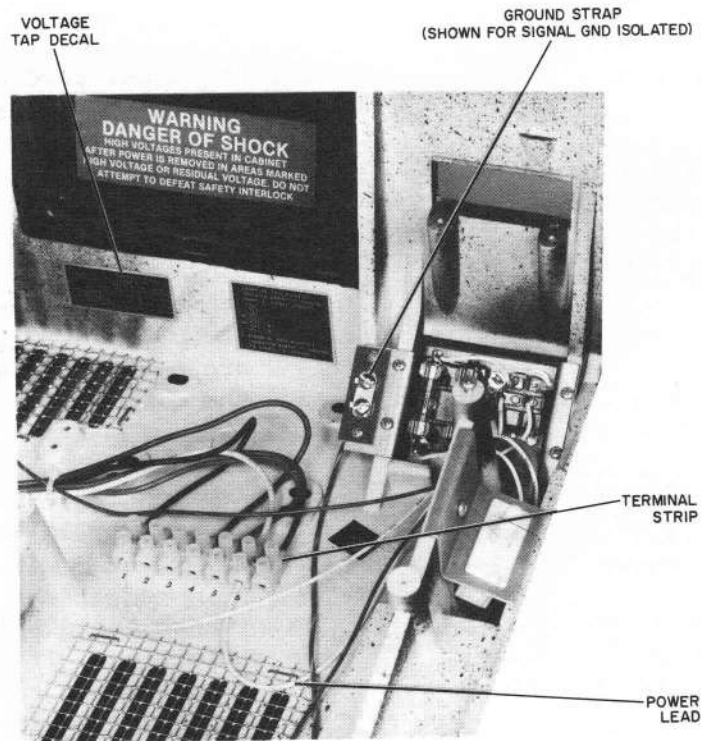

Figure 6-6. International Terminal Power Connections
b. Refer to the voltage tap decal on the back of the base (figure 6-6) for the tap for the desired voltage.
c. Loosen the screw securing the power lead to the terminal strip (figure 6-6) and move the wire to the terminal tap for the desired voltage.